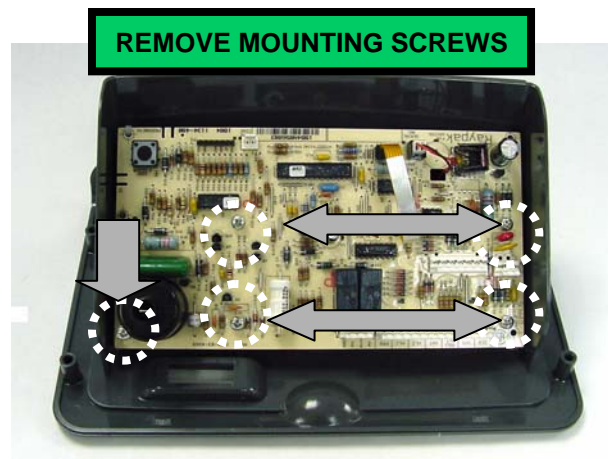

Fig. 10
3. Remove screws as shown in **Fig. 10.**